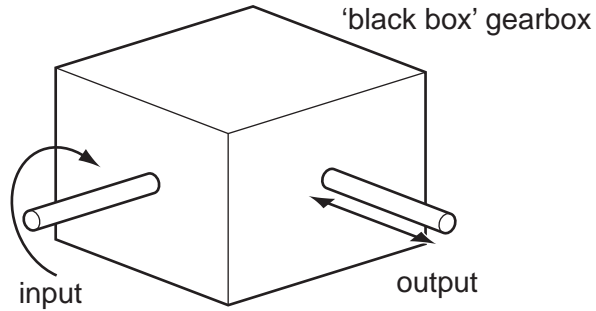

Fig. 1
- 1 Fig. 1 shows a black box diagram of a gearbox.
Name the **two** types of motion indicated on Fig. 1.